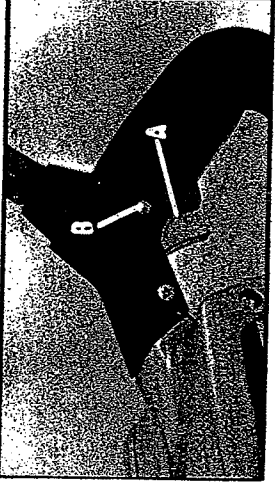

Fig. 2
2. Squeeze Trigger Switch (A) (Fig. 2) to start motor. Release Trigger to stop motor.
3. **LOCK BUTTON** - A lock button (B) is provided to keep motor running without holding the trigger switch ON.